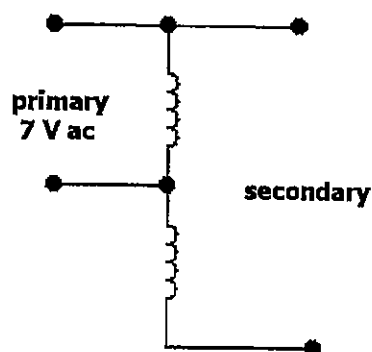

Fig 13.4
- 15- Turn off the power and reconnect the transformer so that half of the low side winding serves as the primary of a step-up autotransformer, as shown in Figure 13.4. Repeat Step 14.